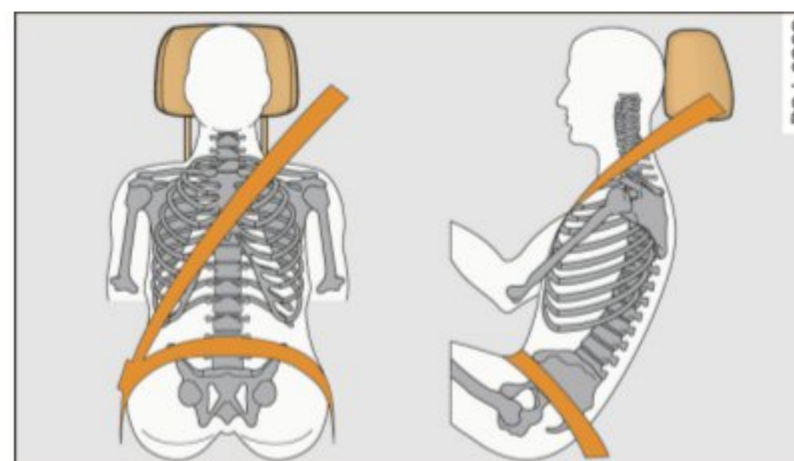

Fig. 174 Head restraint and safety belt position as seen from the side
- The safety belt must lie flat and snug on the occupant's upper body ⇒ *fig. 174*. Pull on the belt to tighten if necessary.
- The lap belt portion of the safety belt must be positioned as low as possible across pelvis and never over the abdomen. Make sure the belt lies flat and snug ⇒ fig. 174. Pull on the belt to tighten if necessary.